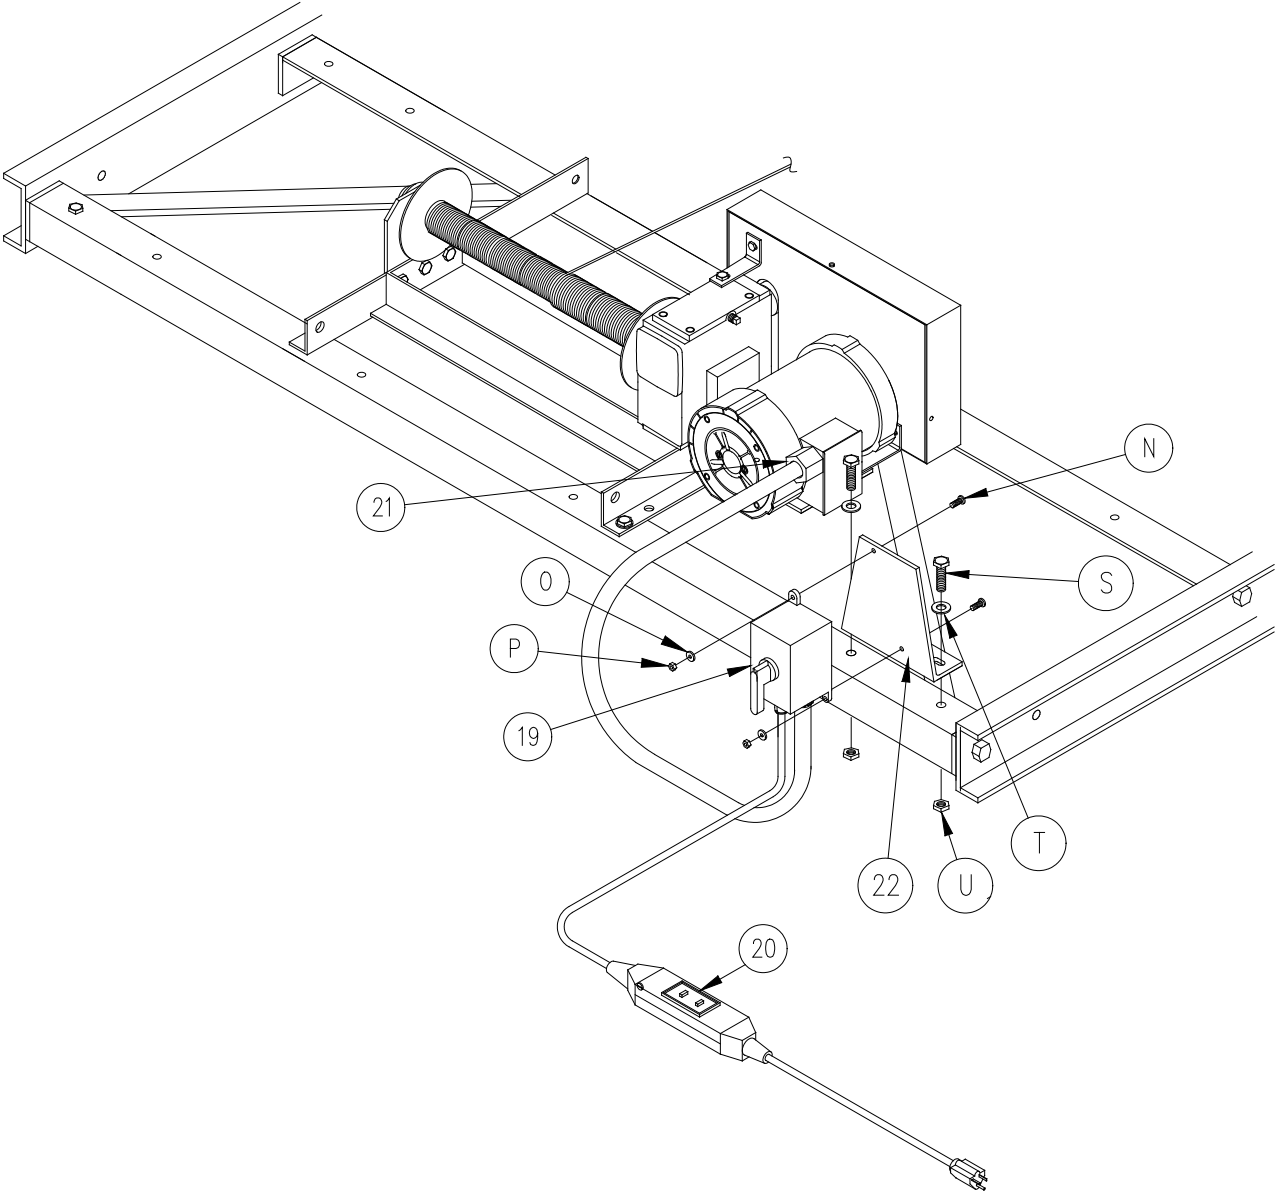

Figure 3-3.
1. **Refer to Figure 3-3.** Mount reversing drum switch assembly (19) to frame using mounting bracket (22) and hardware as shown.